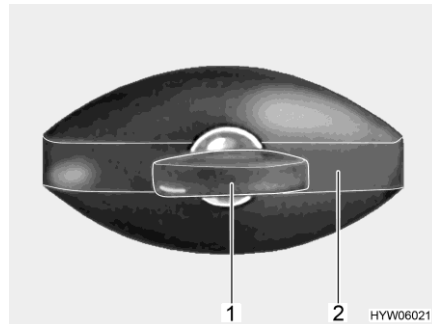

Fig. 45 Flap lock (elliptical-shaped, closed)
- Insert key into locking cylinder (Fig. 45,1) and turn a quarter turn in an anticlockwise direction. The lock handle (Fig. 45,2) snaps out.